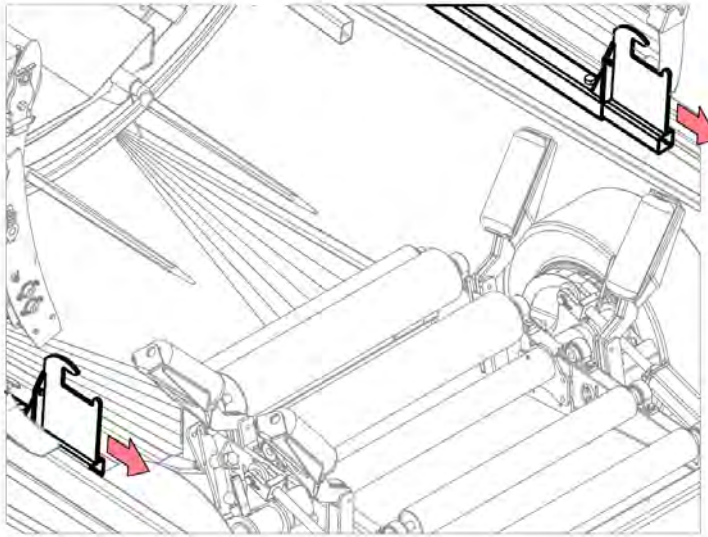

Fig.1
1. Remove standard last bale pushoff hooks from ram tubes. Keep unfastened hardware. See Fig.1.